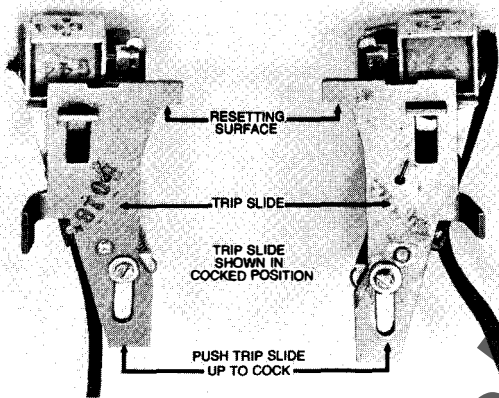

Fig. 4-L Fig. 4-R
- Disconnect all external leads from the terminal board. See Fig. 4.
- For right side mounted device, Fig. 4-R:
- For left side mounted device, Fig. 4-L: